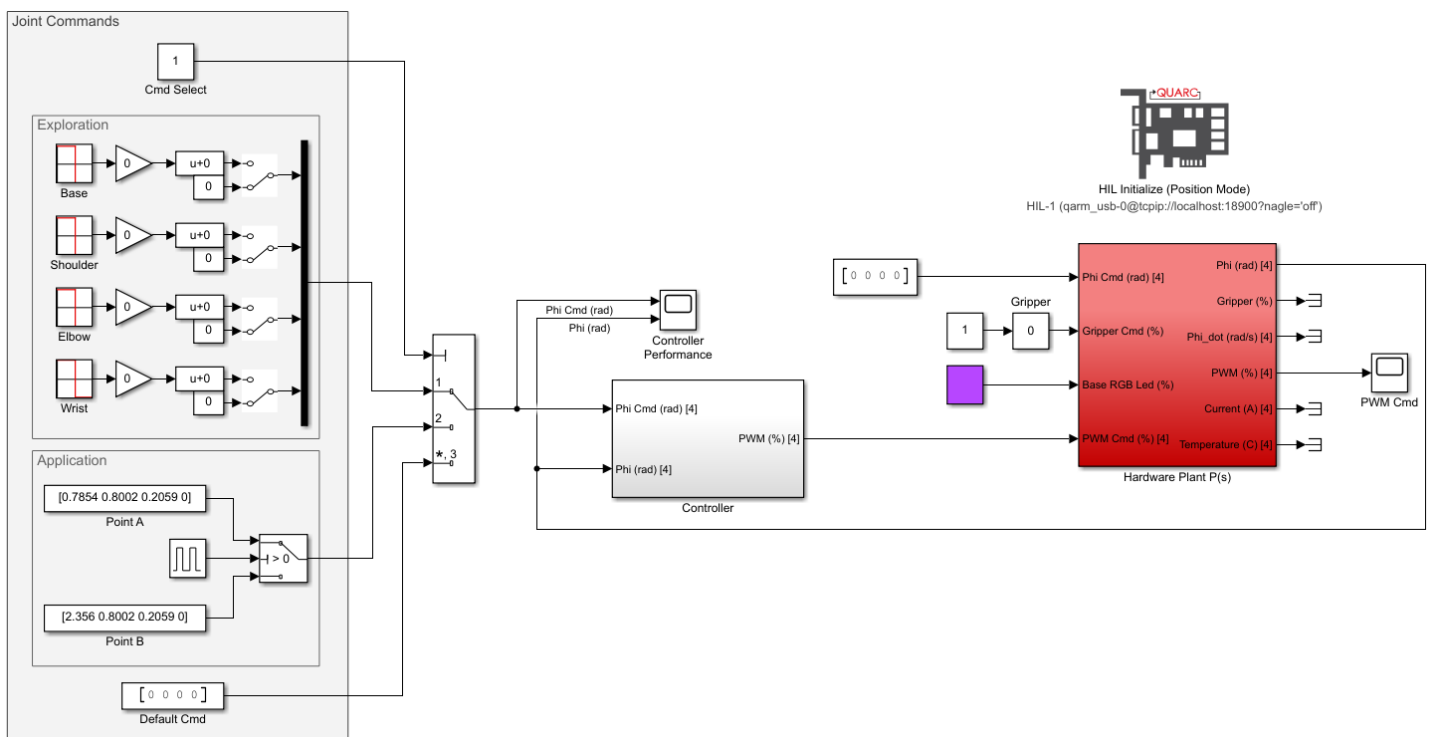

Figure 1: Simulink model that controls the QArm in PWM Mode.
1. Open the Simulink model LowLevelControlPWMMode.slx (Figure 1). For this section of the lab you will use the switches and gains in the Exploration Box to select the setpoints for the base, shoulder, elbow and wrist motors. With varying setpoints, you will tune the proportional, integral, and derivative (PID) terms of the joint controllers to examine their effect on performance characteristics mentioned in the Application Guide.